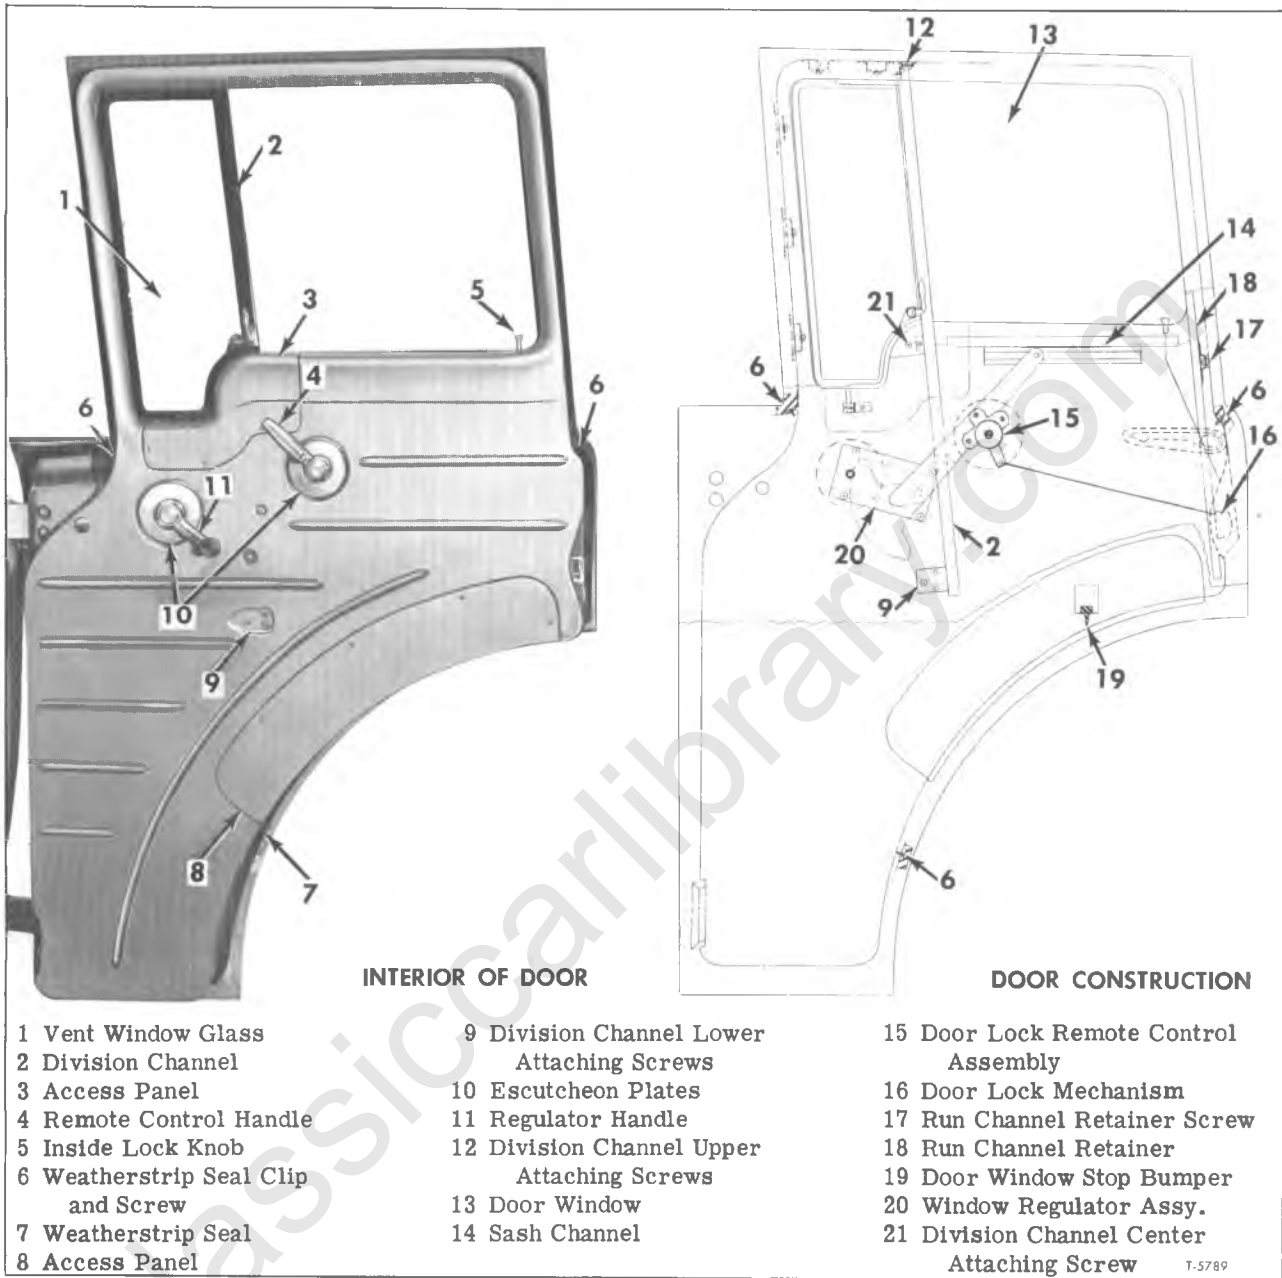

Figure 16—Door Construction
NOTE: Figure 16 illustrates the position of the lock and remote control mechanism components.
#### INSTALLATION (Figs. 16 and 17)
3. While holding regulator assembly through opening in door, remove four screws (figs. 16 and 17) which attach regulator assembly to door inner panel.
4. Remove frame to door screw and frame to divisional channel screw (fig. 16).
5. Remove three division channel lower attaching screws (fig. 16).
6. Remove division channel screws at top of door (fig. 16).
7. Remove two screws at edge of door which attach run channel to door (figs. 16 and 17).
2. Remove applicable screws which attach either division channel or run channel to door framing (fig. 16) and lower channel(s) through access opening at bottom of door.